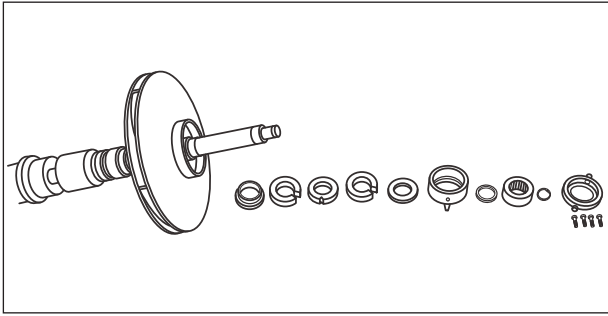
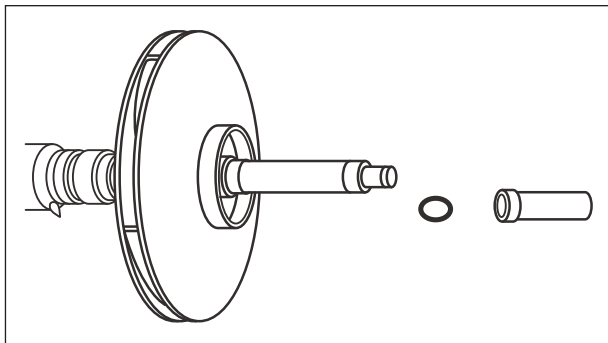

Figure 11. Outboard rotating element components removed, illustrating disassembly.
Figure 12. Sleeve and O-ring removed.
16. Outboard bearing (38) is press fitted onto shaft (65). To remove it, place a puller on bearing cartridge (36) and pull cartridge, grease seal (37) and bearing from shaft. The grease seal can be pressed from the bearing cartridge if it needs replacing, then slide slinger (39), lantern ring (52) and bushing (56) off shaft (65) single stage, (71) two stage. Refer to Fig. 11.
17. Removal of inboard bearing is basically the same as for outboard bearing. Remove capscrews (41) and slide slinger (40), cartridge cap (42), grease seal (43) and gasket (44) off shaft.
18. Pull or press off bearing cartridge (45), grease seal (46) and bearing (47). Remove slinger (48), lantern ring (52) and bushing (56) from shaft.
19. If pump has right-hand rotation, unscrew and remove outboard sleeve (57) first. Remove O-ring (62) single stage, (58) two stage. If pump has left-hand rotation, unscrew and remove inboard sleeve (64) single stage, (65) two stage first. Remove O-ring (58) single stage, (66) two stage. Refer to Fig. 12.